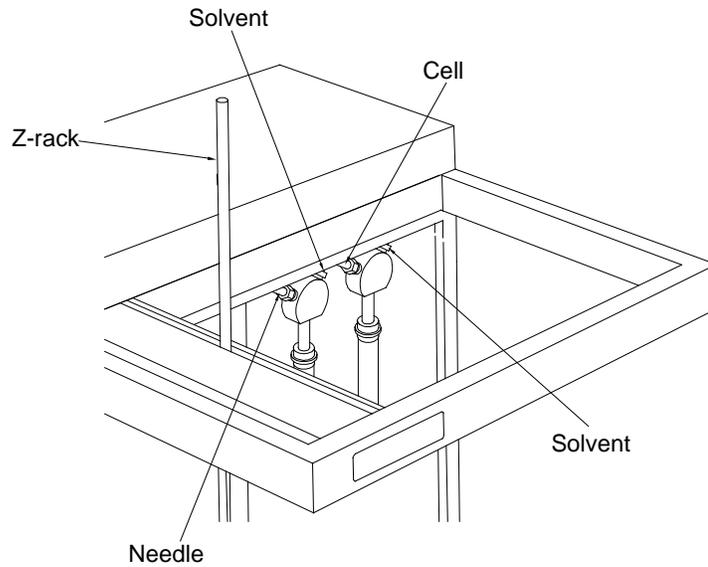

Figure 21 Tubing connections from the pumps to the 2-port flowcell
3. Remove the needle tubing (L1200587) from the accessory bag. Install the end with the fitting into the left valve port of the left syringe pump. Insert the other end through the fluid line support arm (Figure 17), and then through the top of the Z-rack until it extends approximately one inch out from the lower end (Figure 21).